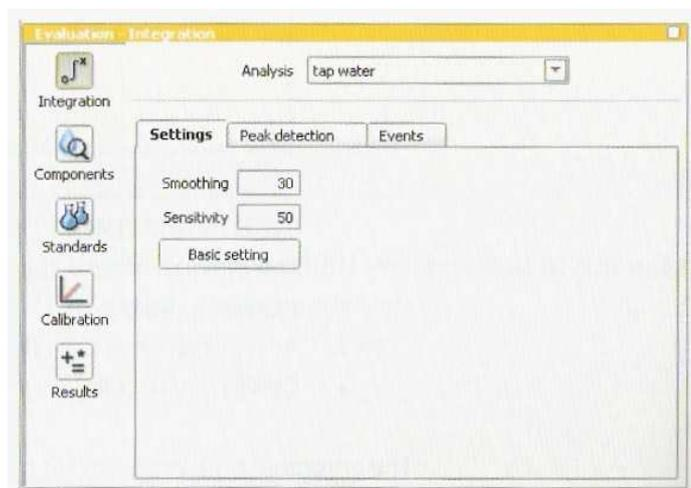

Figura 11.1– Janela do software Magic Net IC, integration.
- Clicar no ícone Integration, Figura 11.1.